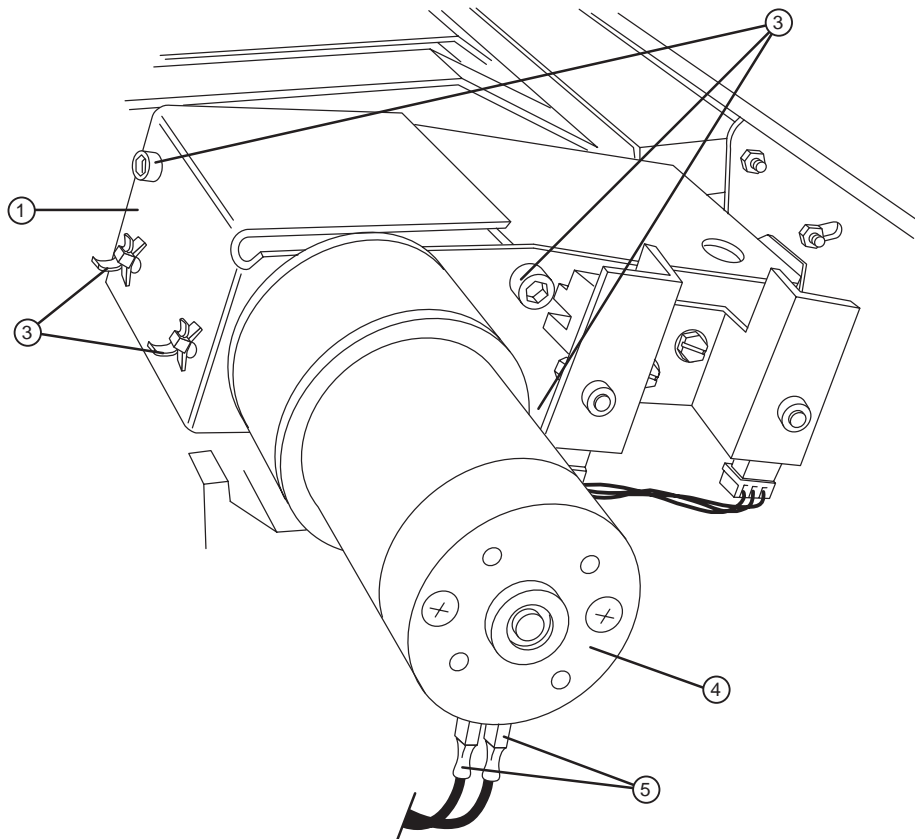

Figure 4-6 Bridge shuttle motor.
2. Remove the allen head screw from the motor cover on the left. Refer to Figure 4-6.
3. Put the bridge in the down position to remove the two (2) remaining allen head screws on the front of the cover. Refer to Figure 4-6.
4. Remove the two (2) power connectors from the bottom of the motor. Note the wire positions for replacement. Refer to Figure 4-6.